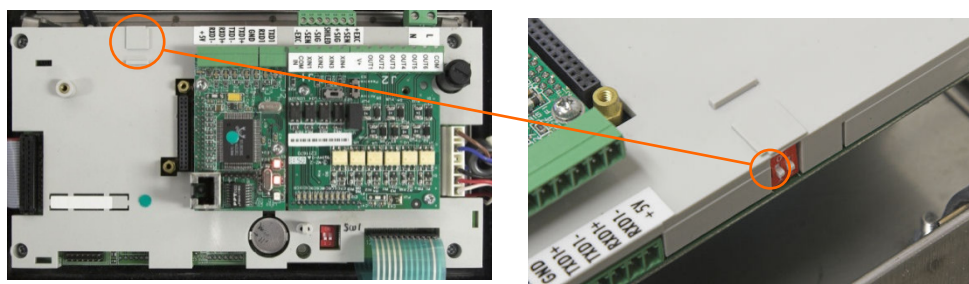

Figure 5-46: Location of Switch SW2-1
- If a reset of calibration data is also required, set SW2-1 to ON. The position of SW2-1 (indicated in Figure 5-46) determines whether metrologically significant EEPROM (scale, calibration) data is reset when a master reset is performed. If SW2-1 is set to OFF, EEPROM data will **not** be affected by the master reset.